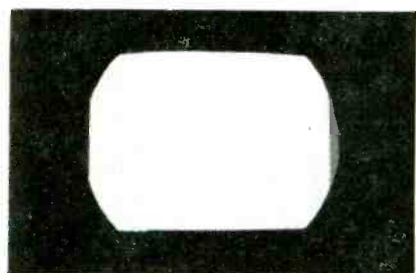

Fig. 10 — White dot gen. pattern.
A. A white-dot generator is used to adjust for proper convergence. Fig. 10 shows the output from a white-dot generator: a polarity switch must be